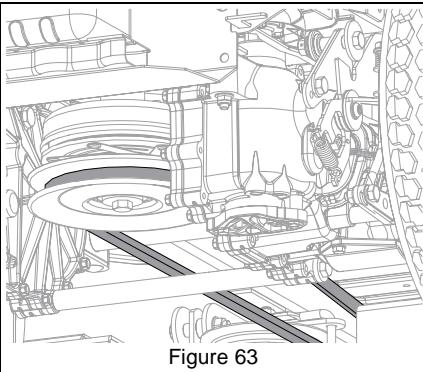

Figure 63
3. Remove deck drive belt from rear drive pulley. See Figure 63.